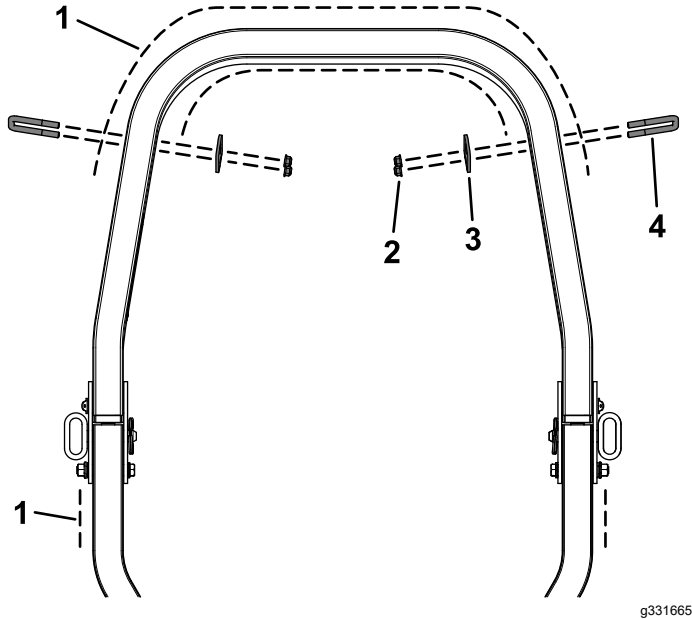

Figure 7
2. Secure the 2 light-mount plates to the roll bar using 2 U-bolts and 2 locknuts (3/8 inch) in the desired location (Figure 7).